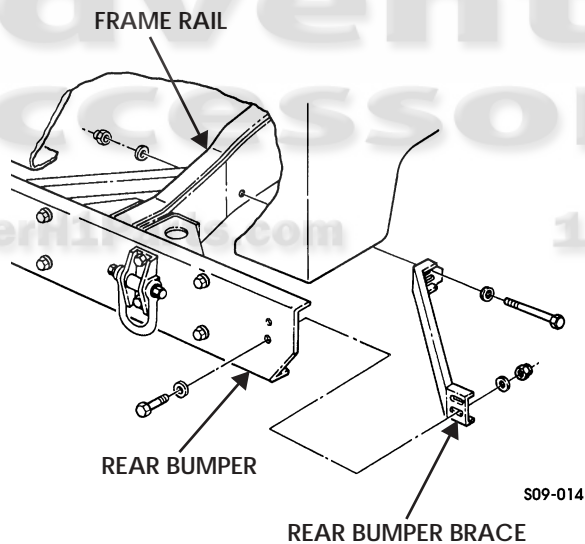

Figure 9-28: Rear Bumper Brace
1. Remove locknut, washer, capscrew, and washer securing rear bumper brace to frame rail. Discard locknut (Figure 9-28).
1. Install rear bumper brace on rear bumper with two washers, capscrews, washers, and locknuts. Do not tighten locknuts (Figure 9-28).